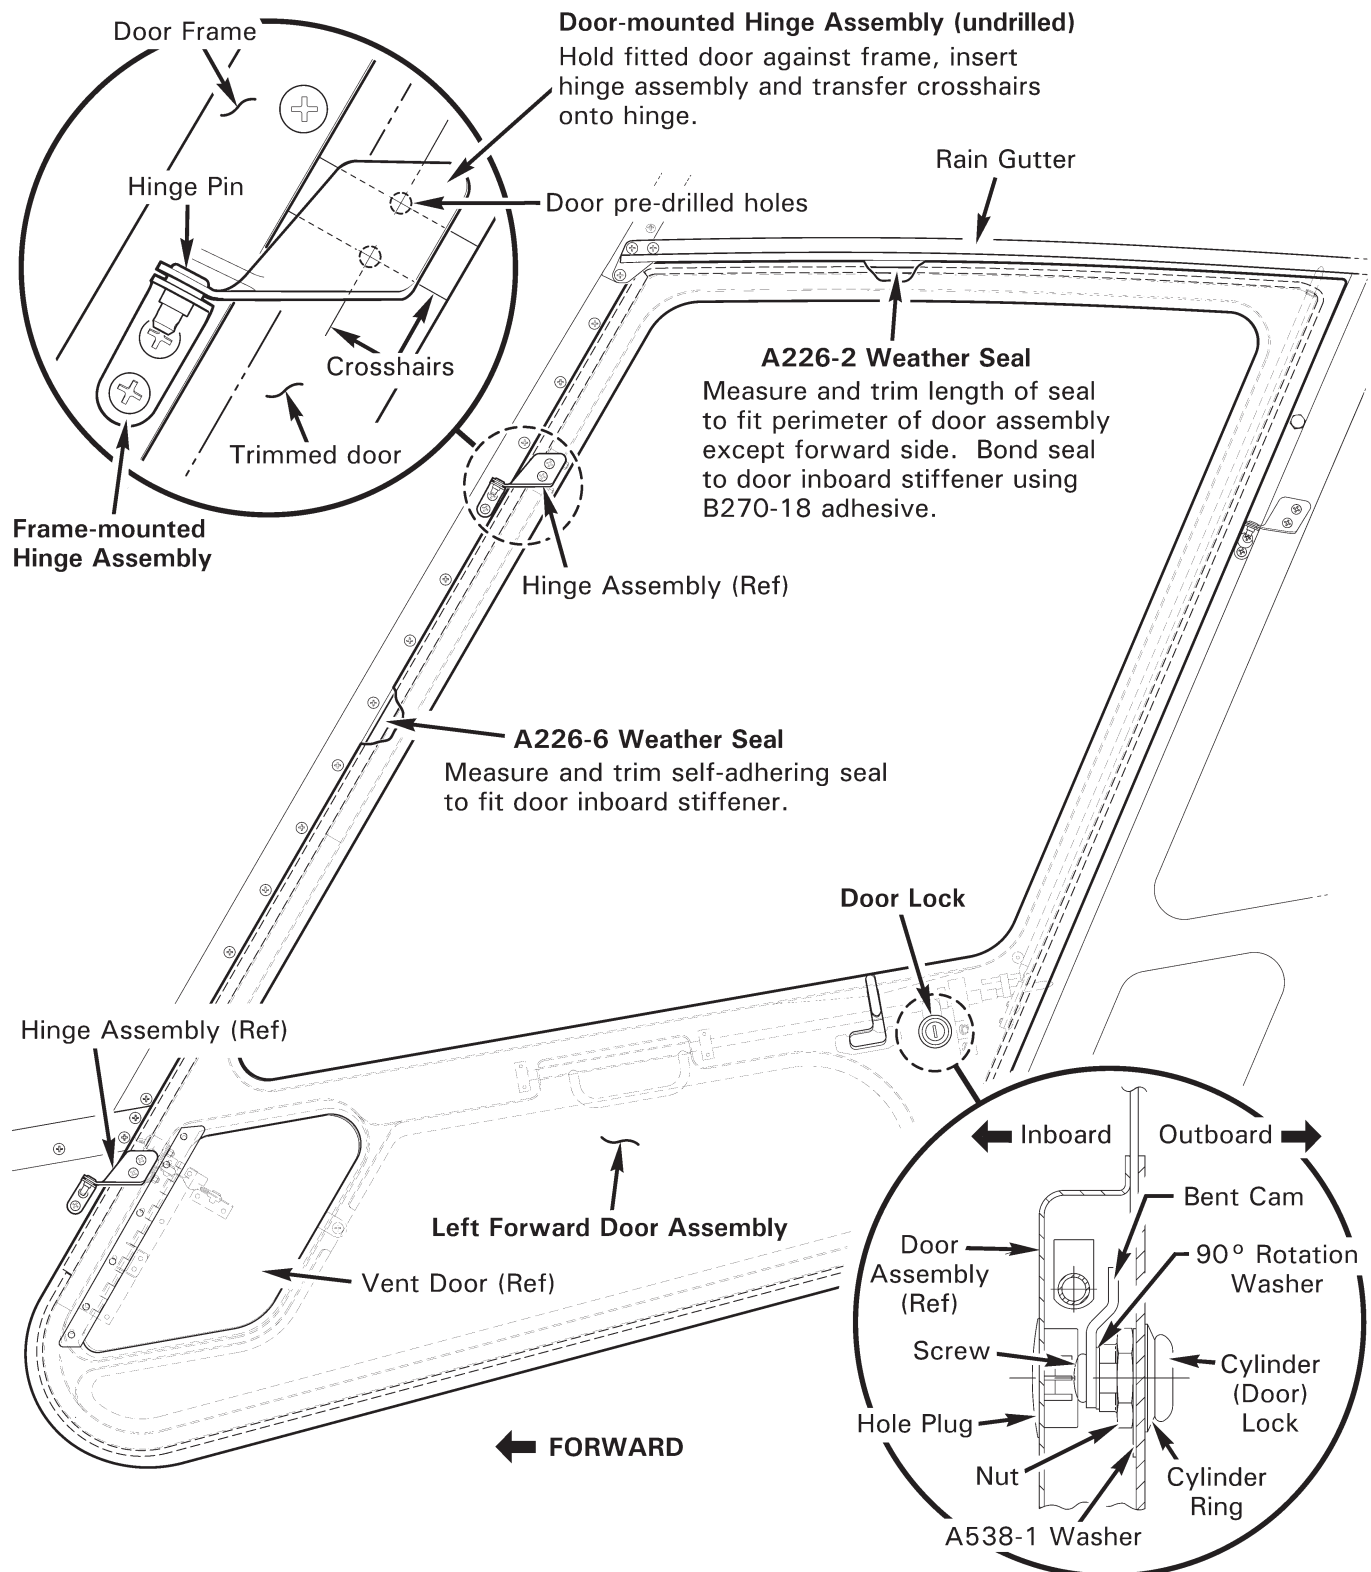

FIGURE 52-1 DOOR ASSEMBLY
1. Refer to Figures 52-1 and 52-2. To disconnect door from gas spring mechanism:
1. Refer to Figures 52-1 and 52-2. Align and insert door hinge pins in door frame hinge assemblies.
1. Refer to Figure 52-1. As required, lay masking tape on surfaces of door frame, new door hinges, and new door, to mark with soft pencil.
2. Refer to Figure 52-1. Remove hole plug opposite key slot on door interior.
2. Refer to Figure 52-1. Measure and trim continuous length of A226-2 seal to fit perimeter of door except forward side, as shown. Neatly bond seal to stiffener using B270-18 adhesive. Wipe away excess adhesive prior to curing.
Refer to R66 Illustrated Parts Catalog (IPC) Figures 52-1 and 52-7.